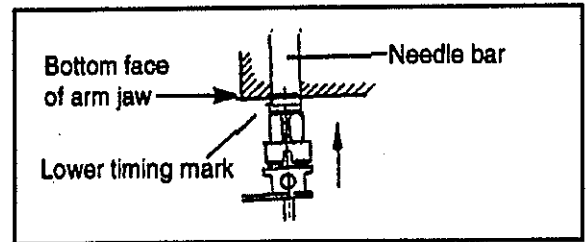

FIG.1
- (1) Remove the work table.
- (2) Remove the needle plate and the hook cover.
- (3) Rotate the hand wheel forward so that the needle bar to the top dead center. The lower timing mark of the needle bar must be aligned with the bottom face of the arm jaw (Fig.1).